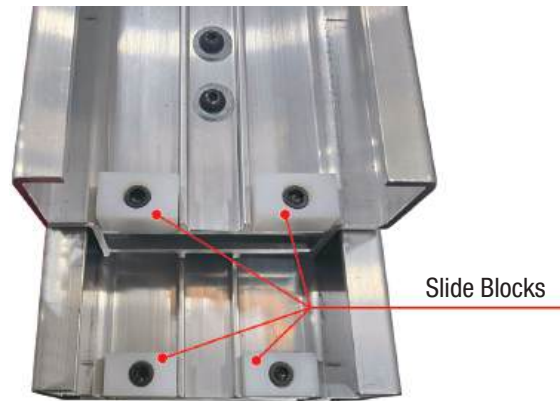
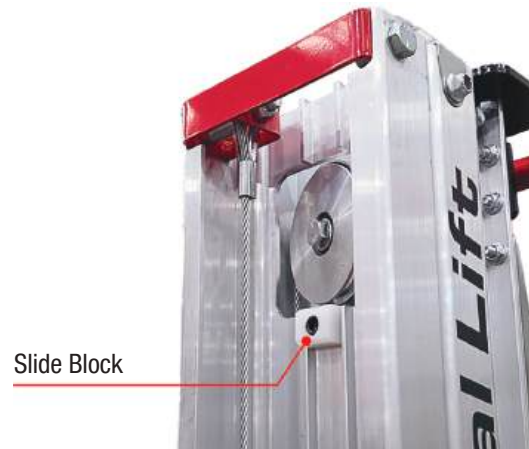

Figure 4-30: Slide Stop Blocks
Figure 4-31: Slide Stop Block
2. Move each mast section up or down to reveal the affected stop block(s) (see Figure 4-30 and Figure 4-31). Using 3/8" hex wrench and 9/16" wrench, remove the damaged white plastic stop block(s) and discard.